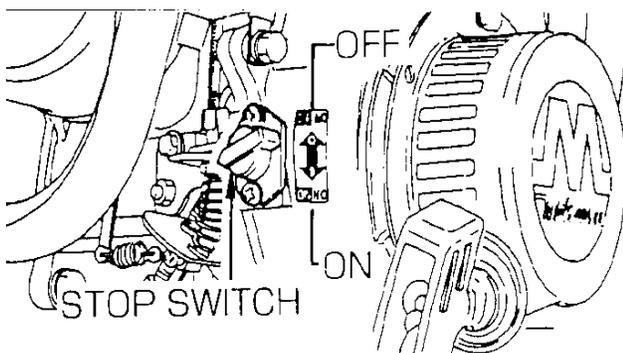
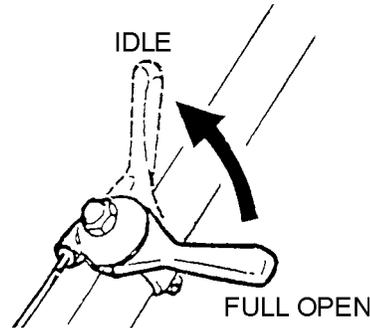

Figure 5. Engine On/Off Switch
Figure 10. Throttle Lever (Idle)
2. Set the engine ON/OFF switch (Figure 5) to the "ON" position (start).
- Move throttle lever quickly from the **FULL OPEN** to **IDLE** position (Figure 10) and run the engine for three minutes at low speed. After the engine **cools**, turn the engine *start/stop* switch to the "**OFF**" position (Figure 5) until engine comes to a complete stop.
- Move the throttle lever quickly to the **IDLE** position, and turn the engine start/stop switch (Figure 5) to the **STOP** position.